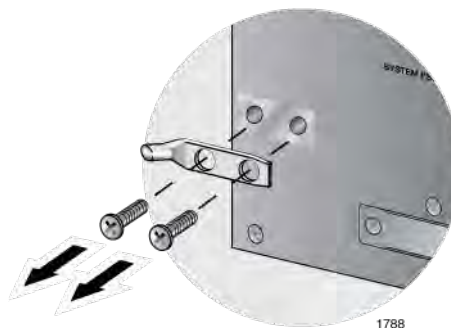

Figure 48. Removing the Grounding Lug
2. Remove the two screws that secure the grounding lug to the rear panel of the chassis, as shown in Figure 48.